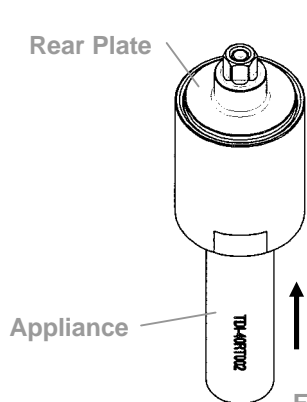

Fig.286
4.2 Use the appliance to push out the rear plate from the pulse cylinder seat. See Chart 42 in reference to the proper appliance selection. (Fig. 286)